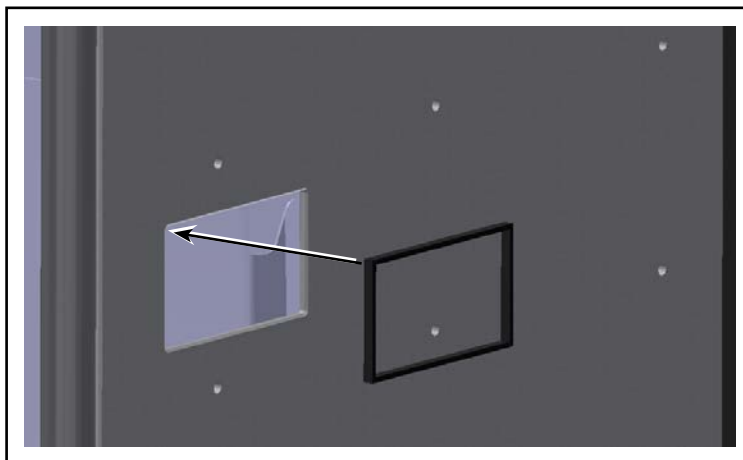

Figure 5 - N30950 Tape Installation on Partition Opening
- 1.9. Install N30950 tape around the inside edge of the partition opening. See Figure 5.